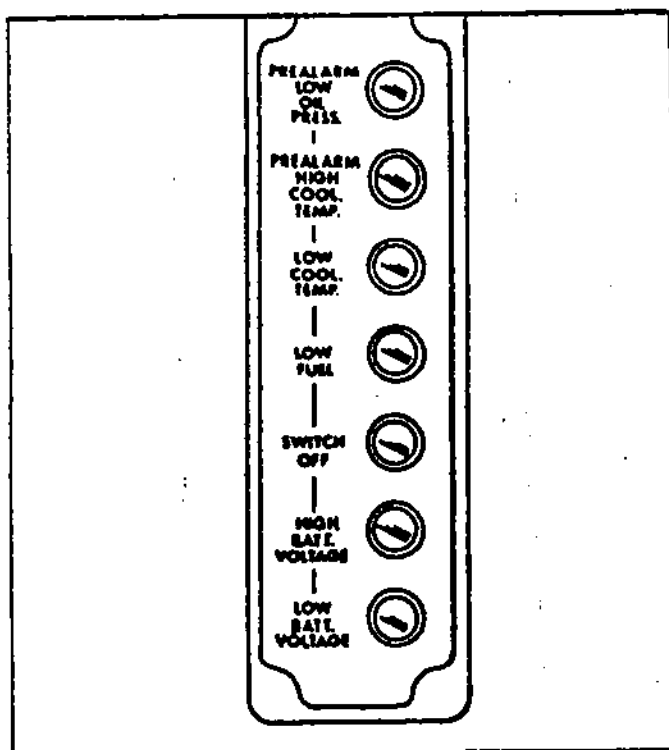

Figure 3.8-A. A Typical Optional Anunciator Panel
The panel illustrated in Figure 3.8-A has one advisory light which does not follow the normally open contact rule. The LOW BATTERY VOLTAGE advisory light connects to a set of normally closed (NC) contacts on the 10 ampere "Float-Equalize" Battery Charger.
3.8.2- PREALARM LOW OIL PRESSURE (Figure 3.8-A, 3.8-B)